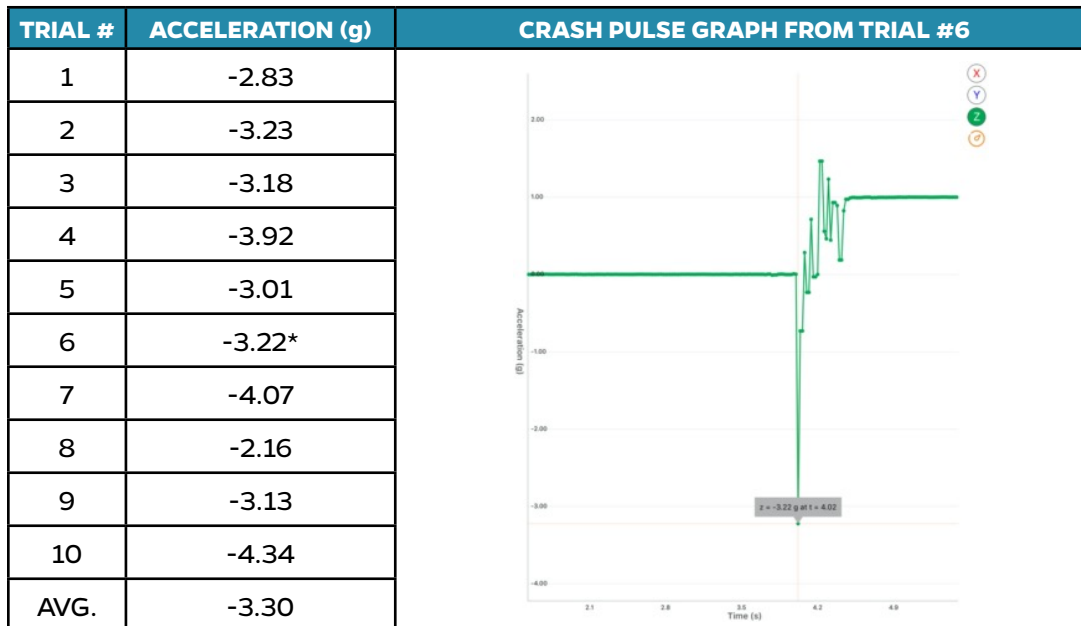

Figure 2: Sample Data Table 2
- a.** To raise the bottom of the sensor above the raised edges of the track, show students how to tape the dice together to make a small platform for the sensor. If dice are not available, a stack of four pennies taped together may be used to make the small platform (See Figures 2 and 3). Remind them to use the clear tape to tape the Styrofoam® packing peanut and the paper Pedestrian Crash Test Dummy outline to the sensor (See Figures 5 and 6).
7. Allow groups 15-20 minutes to brainstorm, draw, describe, and build their designs and instruct them to complete items 1-4 on Part D of the activity sheet.
8. Review the Procedure for **Part E - Test, Gather Data, and Analyze Modified Bumper Performance** and instruct groups to conduct at least five trials using their car with modified bumper. Circulate among groups to ensure that students are using a consistent and correct procedure for each trial and are correctly recording results in Data Table 2 (See Sample Completed Data Table in Figure 2 below).
9. After students have completed their simulations and filled in Data Table 2, instruct groups to analyze their data as well as observations made of their modified bumper’s performance during the simulations to complete item 9 on Part E of the activity sheet.